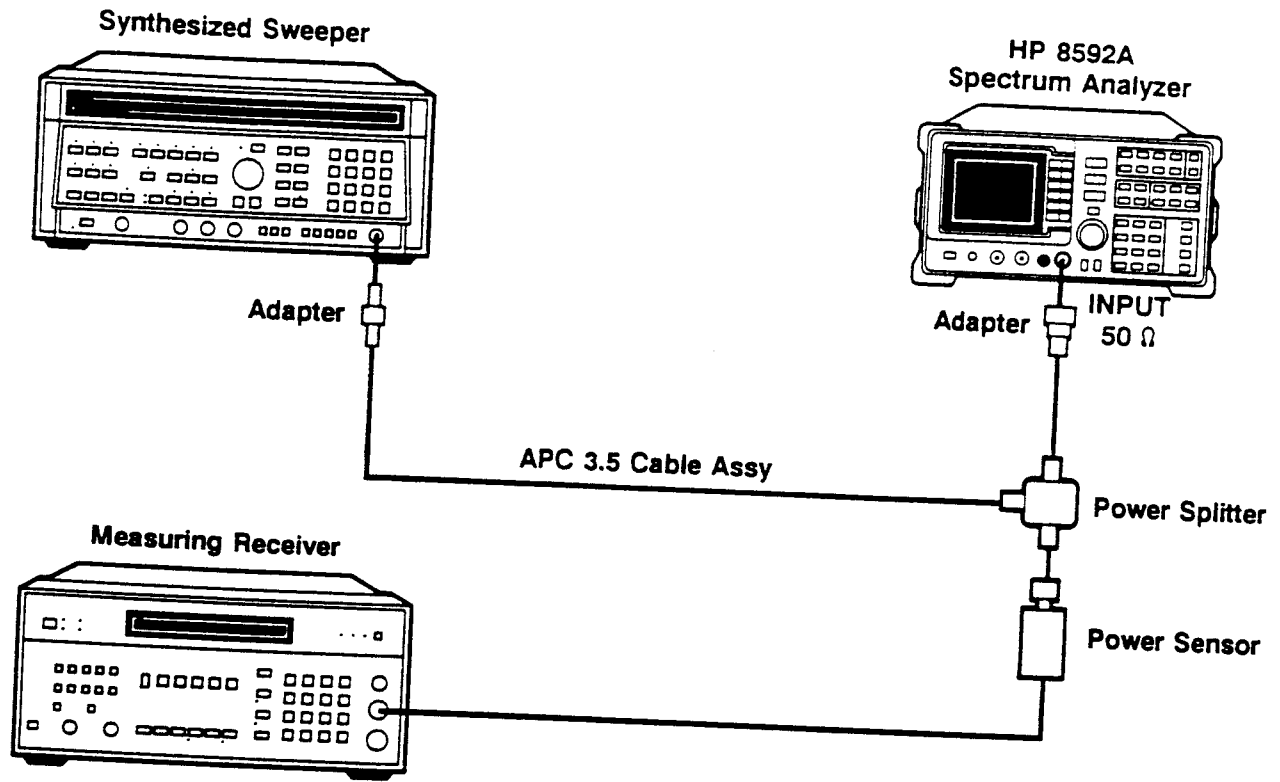

Figure 1-12. Image, Multiple, and Out-of-Band Responses Test Setup
3. Connect the equipment as shown in Figure 1-12.